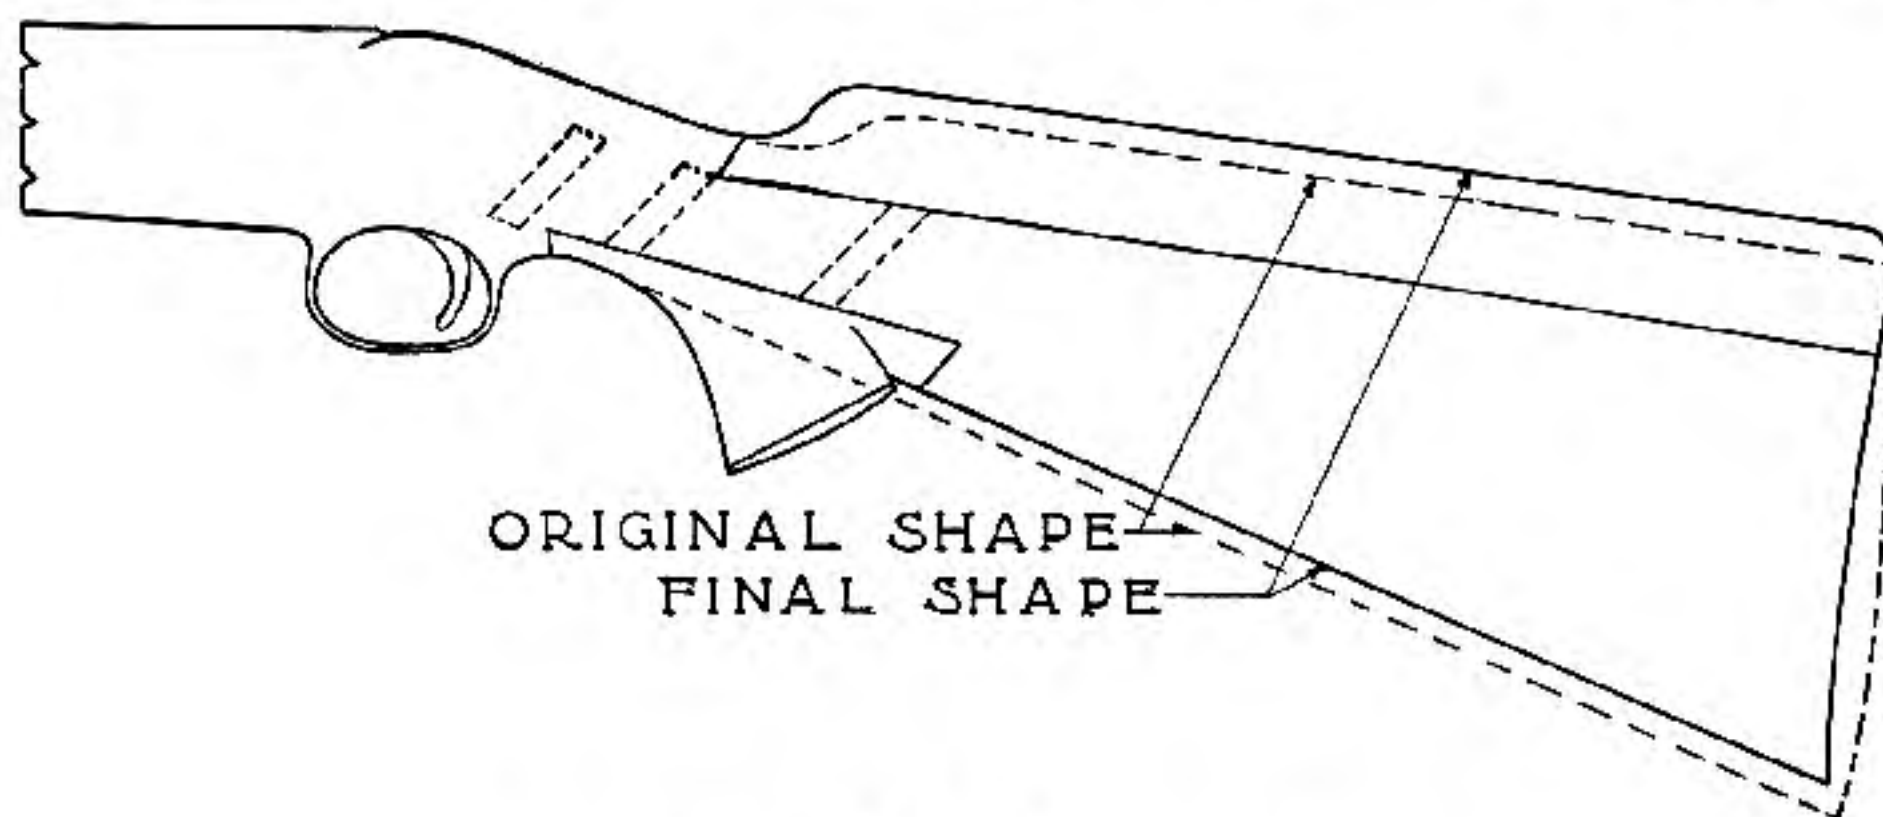

Fig. 100
**Krag and Springfield Service Stocks** — An example of attaching combs and pistol grips on a Krag stock is shown in Figure 100. Since we have mentioned the Krag or Model 1898 Springfield rifle we will describe in detail the course of work required to put a service stock in the same class as a sporting stock, completed with pistol grip and raised comb. The Springfield model 1903 service and the Krag are alike in the butt stock, so whatever work is intended on the Springfield may be duplicated on the Krag. There are many Krag rifles in the hands of the American public, as these rifles are now obsolete in government service. It is necessary to do considerable work on this type of rifle to make it into a sporting arm, but when it is completed you have one of the best bolt-action
**The Attaching of Combs and Grips** — Figure 100 illustrates the proper cut-out for the insertion of a comb and for a pistol grip upon a service stock, together with the correct method of lengthening one of these stocks when necessary. The drawing will show what may be done in the way of reshaping these butt stocks to obtain any desired shape and dimension. The dotted lines show the original shape of the stock, while the heavy lines show its shape after remodeling. The thin full-length lines show where the saw cuts will be made and the pieces of walnut inserted. Match these in color and grain to the wood in the original stock. The first cut is made in the upper side of the grip between  $\frac{3}{4}$  and 1 inch ahead of the comb of the original stock. This cut is marked deep enough so that when the piece is finished to the proper outlines, the comb will not come out too thin.